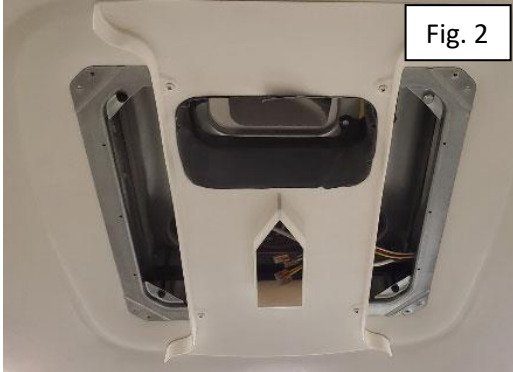

Fig. 2
3. Remove (6) fasteners from internal blower cover and set aside for reinstall. (Figure 2)